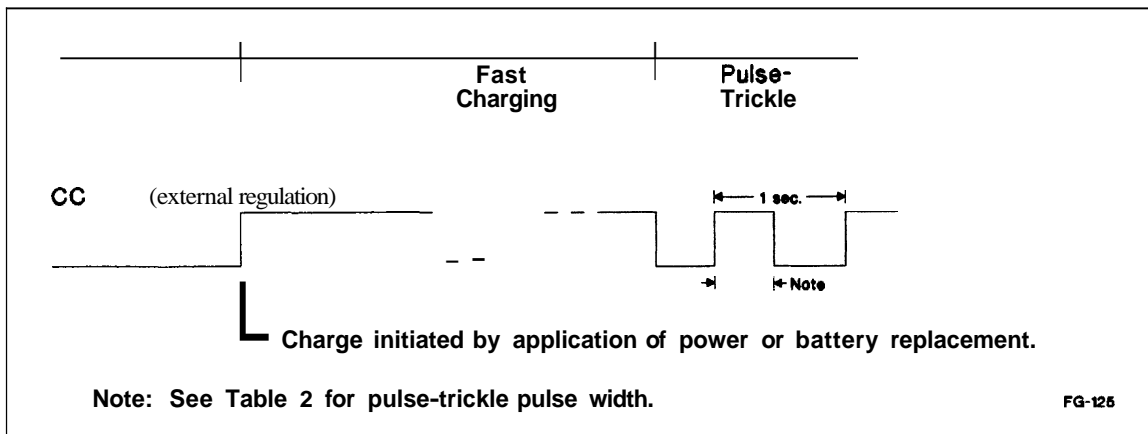

Figure 1. Example Charging Action Events
**Figure 1** illustrates the charge control **status** during a **bq2002C** charge cycle. Table 1 outlines the **various** **bq2002C** operational **states** and their **associated** conditions, which are **described** in detail in the following **sections**.